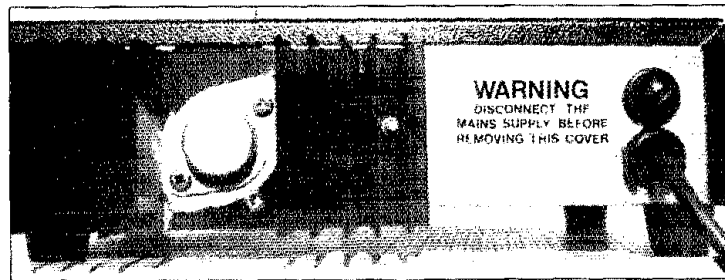

Figure 4—U2's heat sink occupies a good portion of the battery charger's rear panel. Don't forget to use heat-sink grease when mounting U2 to the heat sink.
S1, S2, S3, the battery charging terminals +B and -B, and LEDs DS1 and DS2, are mounted on the front panel as shown in Figure 3. (In the prototype shown, I used a single bicolor LED instead of individual LEDs). The ac line cord, F1's holder, the heat sink and U2 are mounted on the case rear as shown in Figure 4. Note: U2 *must* be isolated from the heat sink by an insulator.
Figure 4—Drawing of the gamma match used with all of the Maltese Quads. Although some of the components used in the gamma match may seem esoteric, they are materials I have on hand. Other Maltese Quad builders have substituted other materials without detrimental effect. (1) is an SO-239 connector for attachment of the coaxial cable feed line; (2) is an air-variable capacitor; (3) is the gamma rod, made of a length of 1/8-inch-diameter copper wire; (4) is the match's adjustable bar, also made of copper; (5) are supports for the gamma rod (made of Lexan polycarbonate); (6) is the fiberglass spreader arm of the quad. The gamma match is adjusted by tuning the variable capacitor and moving the adjusting bar (4), which slides over the gamma rod and bottom wire (C-B) of the linear-loading section. Refer to *The ARRL Antenna Book* or *The ARRL Handbook* for more information on the gamma match and its adjustment.
C-D is the aluminum rod. The rod has an opening at its center to which a half-turn wire loop is temporarily attached. A dip-meter sensing coil is inserted into this loop during adjustment of the perimeter loop to the desired frequency. After the adjustment has been made, the opening is permanently shorted and becomes the attachment point for the gamma-match system. See Figure 4. (In actuality, the single spreader shown in Figures 3 and 4 assumes a vertical position—pointing down—in the finished quad.)